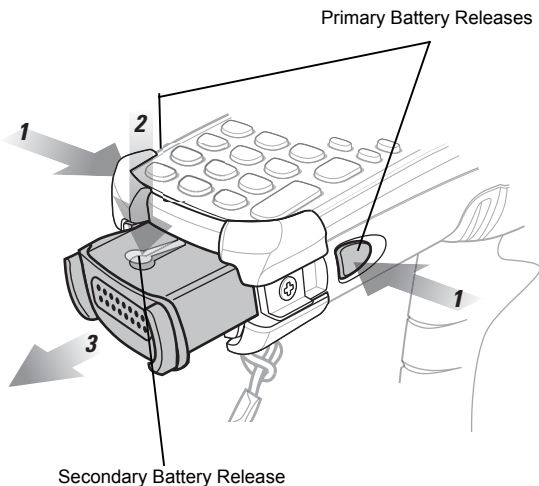

Figure 5 *Removing the Battery*
5. Press the secondary battery release on top of the battery, and slide the battery out of the MC9190-NI. See Figure 5.